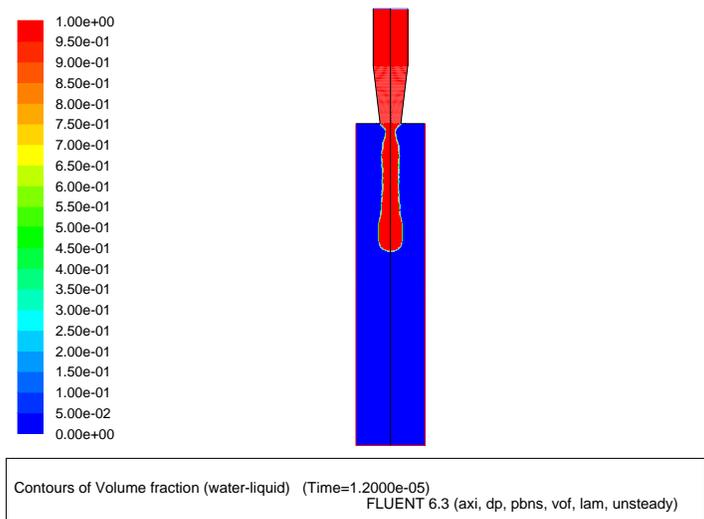

Figure 17.6: Contours of Water Volume Fraction After 12  $\mu$ s
3. Similarly, display contours of water volume fraction after 12, 18, 24, and 30 microseconds (Figures 17.6—17.9).